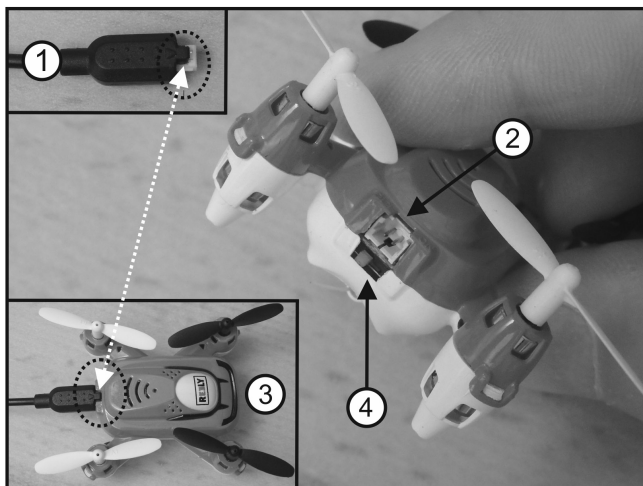

Figure 2
Connect the plug-in charger of the USB charging cable (1) to the charging connection at the rear of the quadcopter (2) according to figure 2.
- Now switch on the quadcopter (see figure 2, item 4). The LEDs in the model start to flash quickly. After the transmitter and quadcopter have been successfully coupled, all LEDs at the quadcopter will remain lit.